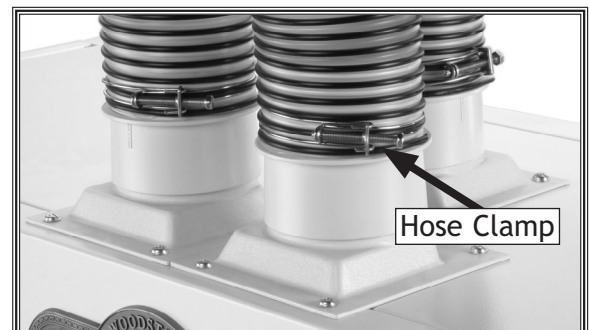

Figure 10. Dust collection hose attached to dust port.
1. Install the dust ports (**Figure 10**) to the mounting locations on the top of the sanding unit with the supplied M6-1 x 10 Phillips head screws, or install a wide-belt sander dust hood.
2. Using 4" hose clamps, secure the hoses from your dust collection system to the dust ports (**Figure 10**).